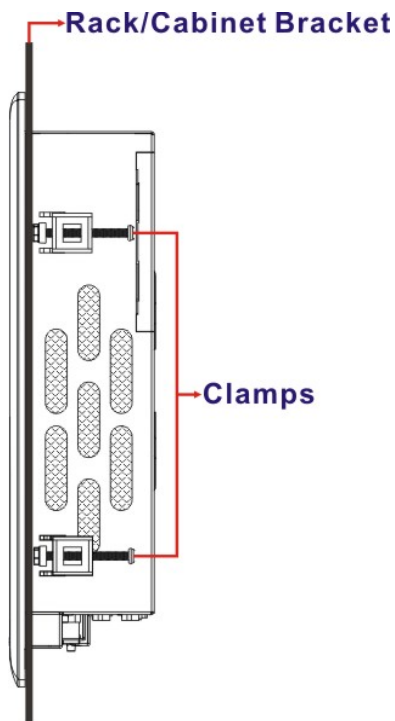

Figure 3-17: Secure the Rack/Cabinet Bracket
Step 3: Tighten the screws that pass through the rack mounting clamps until the plastic caps at the front of all the screws are firmly secured to the bracket (Figure 3-17).